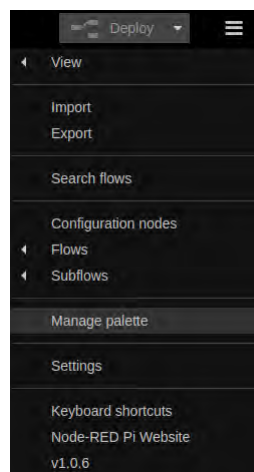

Figure 2.4: Manage Palette
- Click on the top right corner . Select **Manage Palette** as shown in Figure 2.4. Then from the **install** section, install the following package **node-red-node-daemon** if it is already **NOT** installed. This may take more than a minute.